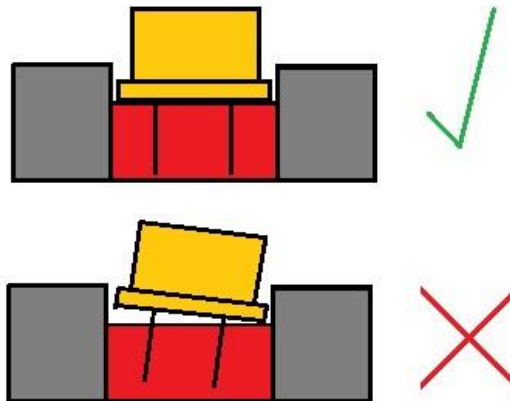

Figure L-9 Fitting a replacement diode
9. Carefully, fit the new diode into the connector. Use the diode tag to align the diode with the connector. Do not bend the pins. The diode must be flush with the connector as shown in figure L-9.